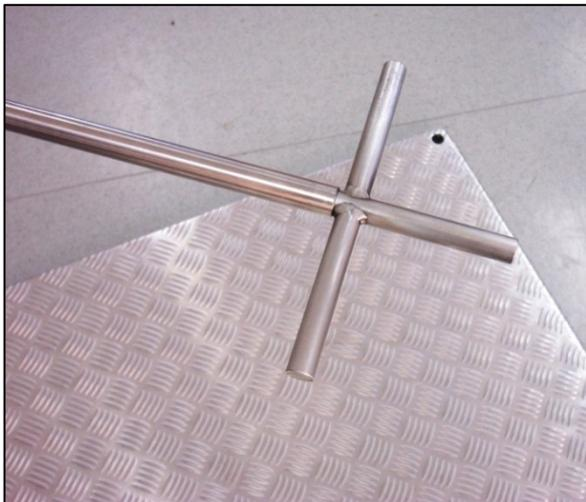
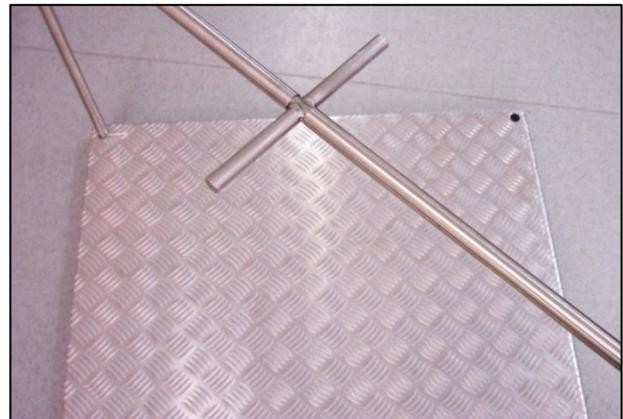

Figure 7
Figure 8
- d. Continue with the second bar on the opposite side of the scale platform (Figure 7 and Figure 8) and use the metal cross to connect the two bars in the middle.